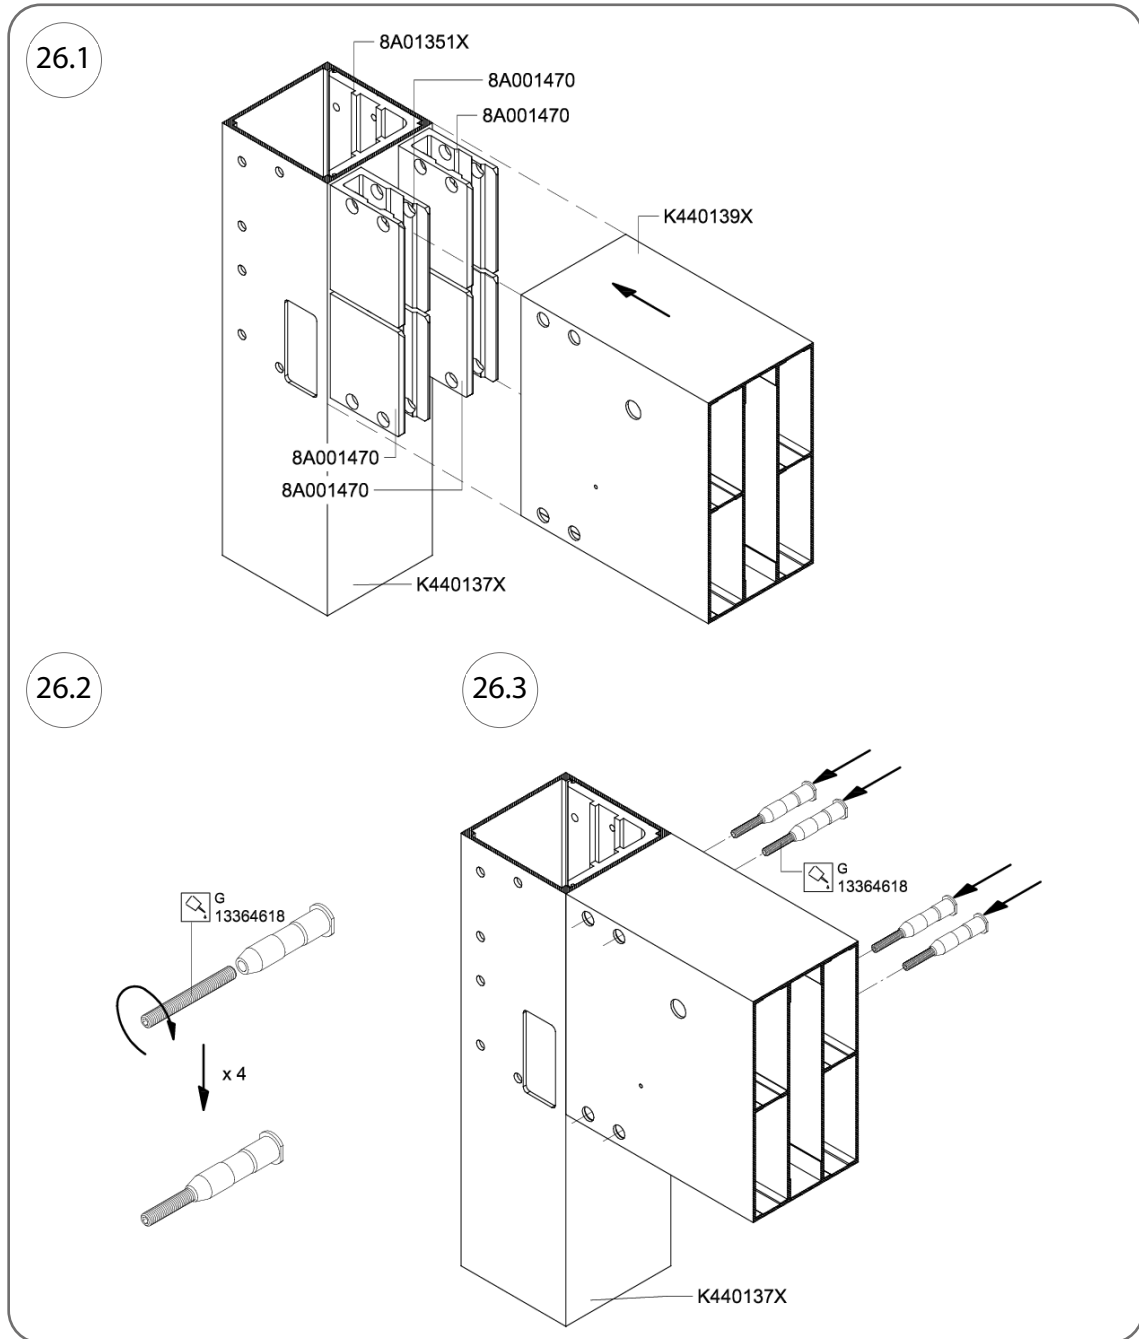
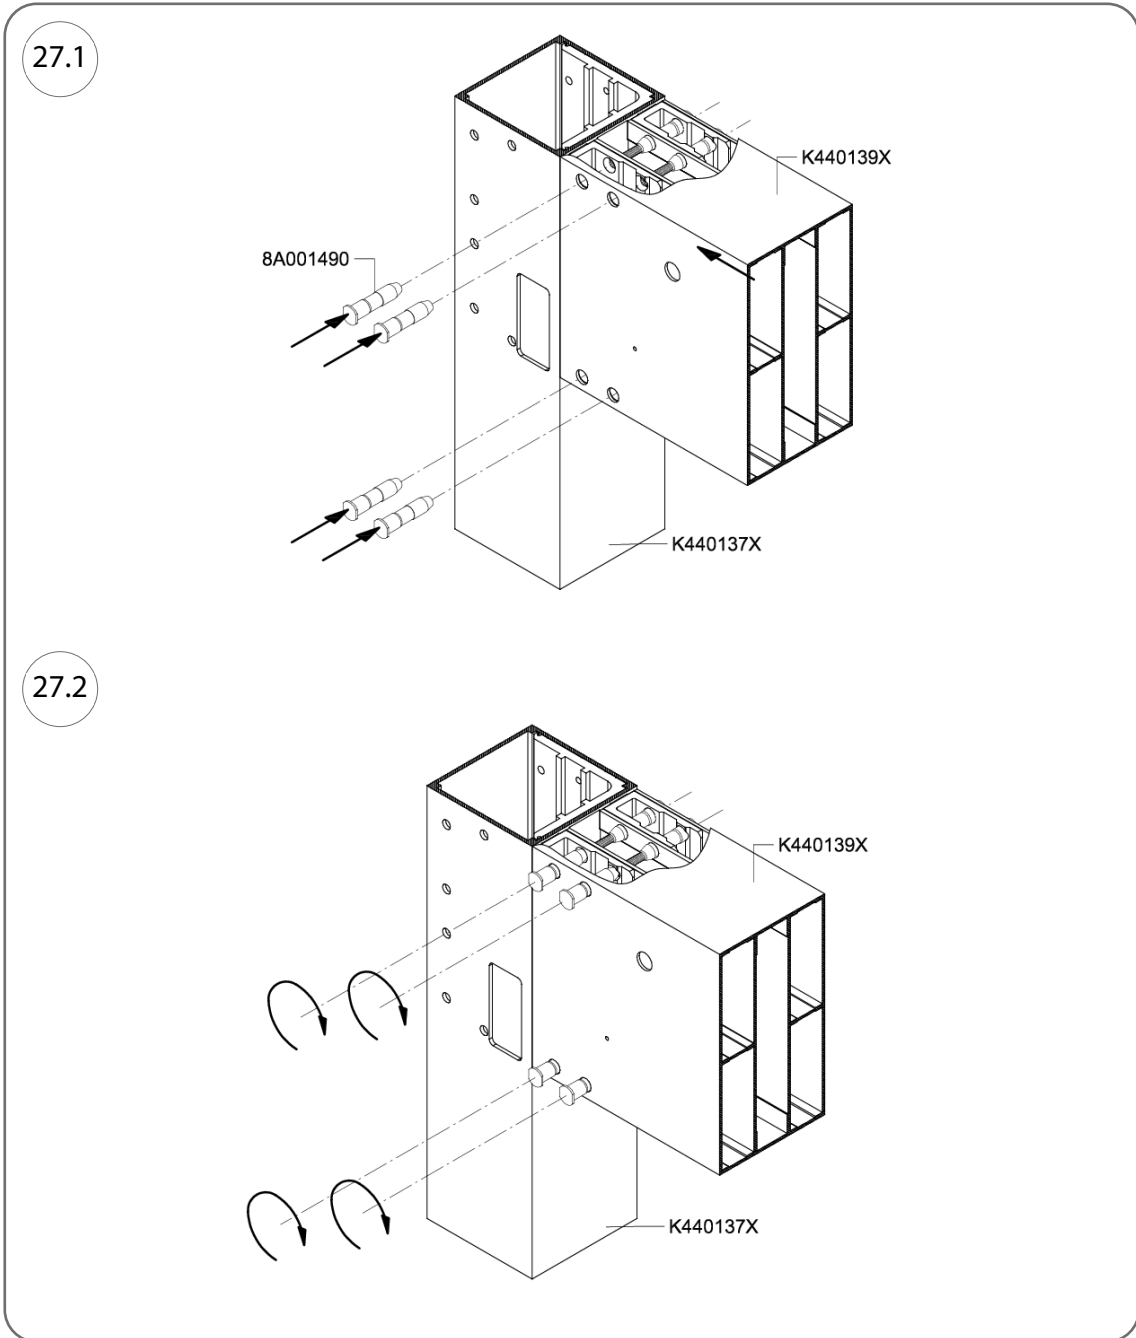

Fig. 26
Fig. 27
1. To make the connection, slide the intermediate rafter (cat. no. K440139X) onto the connectors (cat. no. 8A001470) and, through the double-sided holes in the rafter profile, insert 4 sets of intermediate rafter pins (cat. no. 8A001490X, and then screw the two parts of the pin together (as shown in Fig. 26 and Fig. 27, operation no. 27.2).